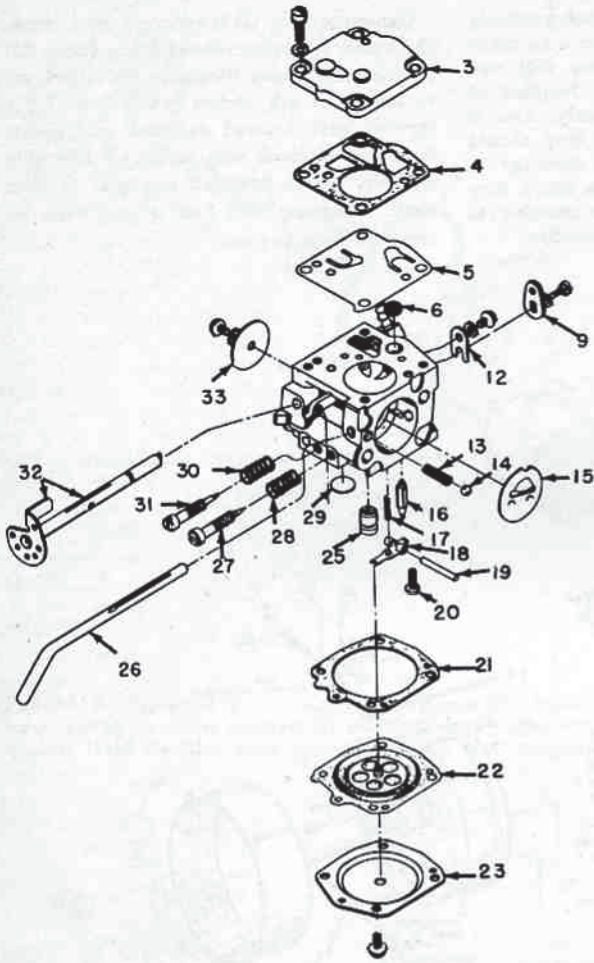

Fig. HL20 — Exploded view of Tillotson Series HS carburetor used on model 251 engine. Note that carburetor is shown inverted from actual position on engine.
CARBURETOR. Refer to Fig. HL20. The Tillotson Series HL carburetor can be removed from engine by removing air intake manifold (4—Fig. HL21) and air cleaner assembly as the two manifold bolts also retain carburetor and reed valve assemblies. When disassembling carburetor, slide diaphragm assembly towards adjustment needle
side of carburetor body to disengage diaphragm from fuel inlet control lever. To remove welch plug (29—Fig. HL20), carefully drill through plug with a small diameter drill and pry plug out with a pin. Caution should be taken that drill bit just goes through welch plug as deeper drilling may seriously damage carburetor. Note channel
Fig. HL21—Exploded view of air intake manifold (4), air filter element (3) and cover (2), carburetor assembly (15), reed type intake valve and related parts. Throttle control rod (9) and knob (7) are not used on generator engines. Refer to Fig. HL20 for exploded view of carburetor.